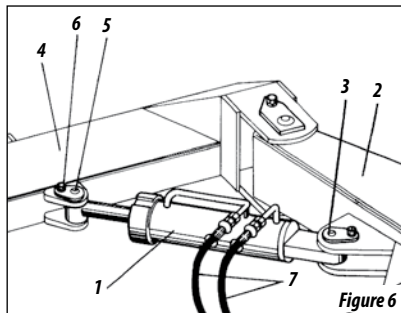

Figure 6
- 01 - Couple the front frame Item 1, Figure 6, to the rear frame item 2 through the coupling shaft item 3 with flat washer, nut and lock screw. Couple the rear stabilizer bar item 4 on the rear frame item 2, with the coupling shaft Item 5 and washer, nut and lock pin item 7.
- 02 - Attach the rear stabilizer bar item 5 with front stabilizer bar item 7 through the coupling shaft item 8, coupling it to the front frame item 1, with the pin Item 10.
- 03 - Place the lock handle item 11 on the front stabilizer bar, passing the adjustment latch item 12 through inside the lock handle, coupling the rear stabilizer bar through screw item 13.
- 01 - Set the piston Item 1 Figure 6, so that the base of the cylinder is placed on the front frame item 2, through the pin item 3, locking it with the screw and the piston rod attached to the rear frame item 4, through pin item 5 locking with screw Item 6.